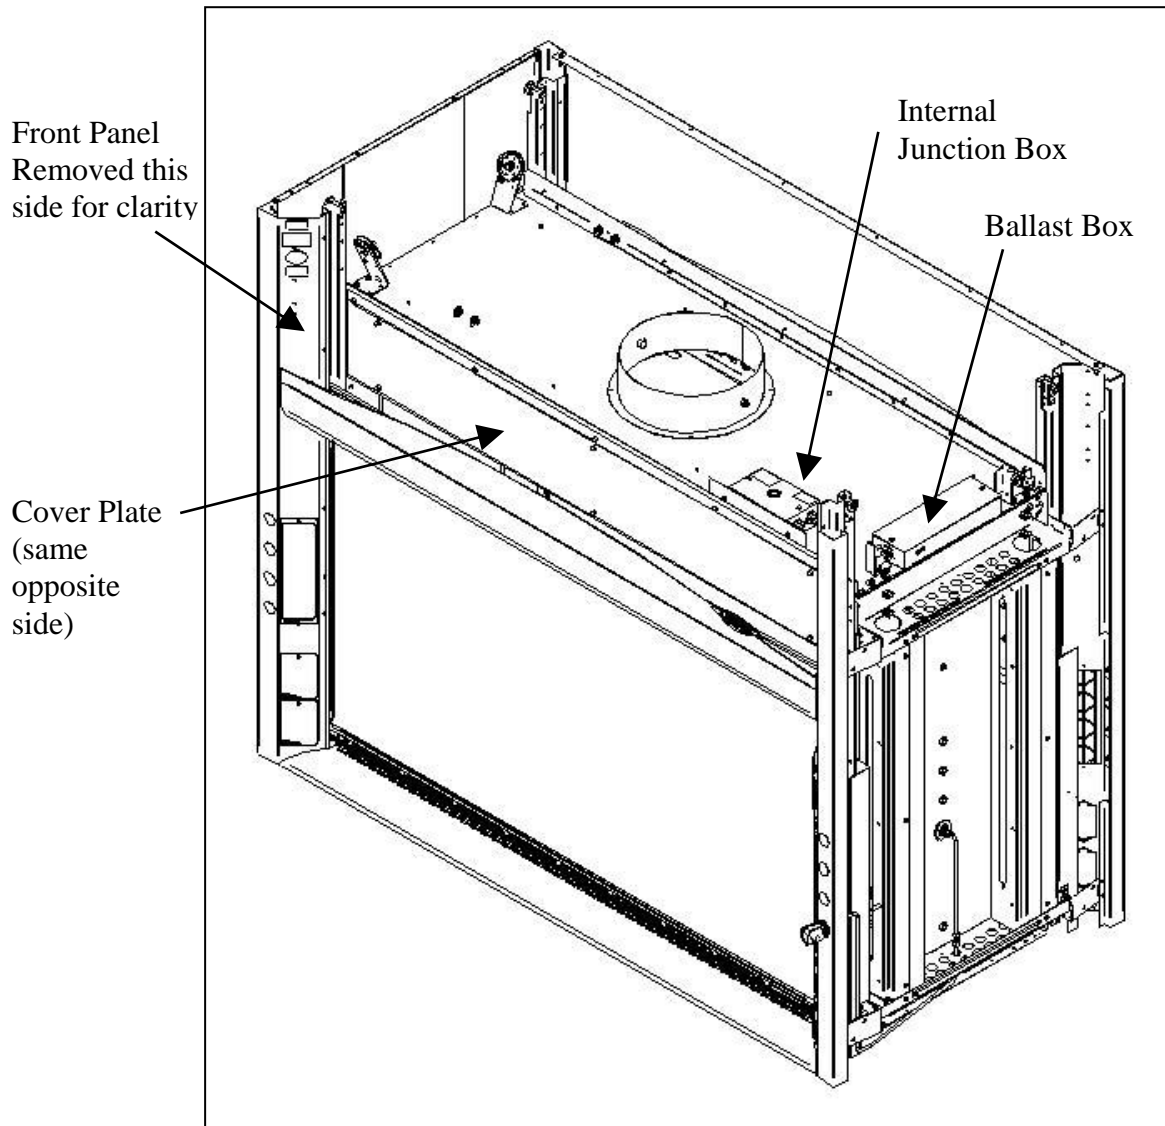

Figure 3-3
The fluorescent light has been mounted behind the front panel and is sealed from vapors inside the hood structure. The fluorescent ballast is located in a separate box on top of the fume hood adjacent to the main junction box. To change the fluorescent light bulbs in your hood, you must first remove the front panel(s) and then the cover plate(s), which is secured with six (6) acorn nuts (See Fig. 3-3). Twist and remove any defective bulbs. Reverse order to reassemble.